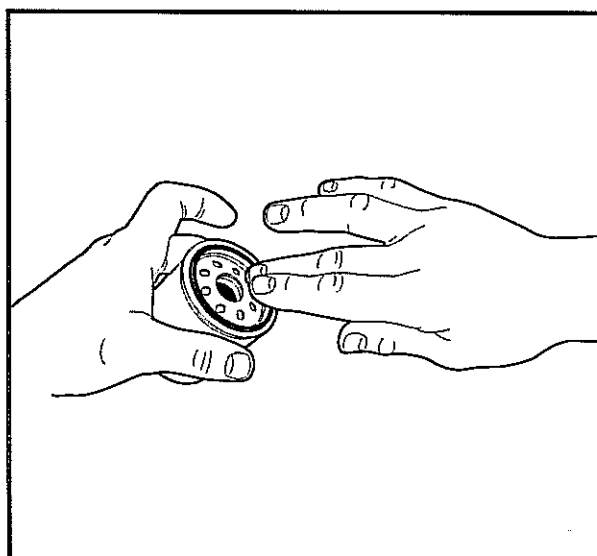

Figure 23 Coat Rubber Seal
5. To help seal the new oil filter to the oil port flange, apply a light coat of white lithium NLGI Number 2 grease (Dow Corning® BR2-Plus or equivalent) or new engine oil to the rubber seal around the outside surface of the filter before attaching it to the oil filter port (**Figure 23**). Install the new oil filter (gas: P/N 603 00 00-09, diesel: P/N 603 00 00-12) onto the engine oil filter port. **See following NOTE.**